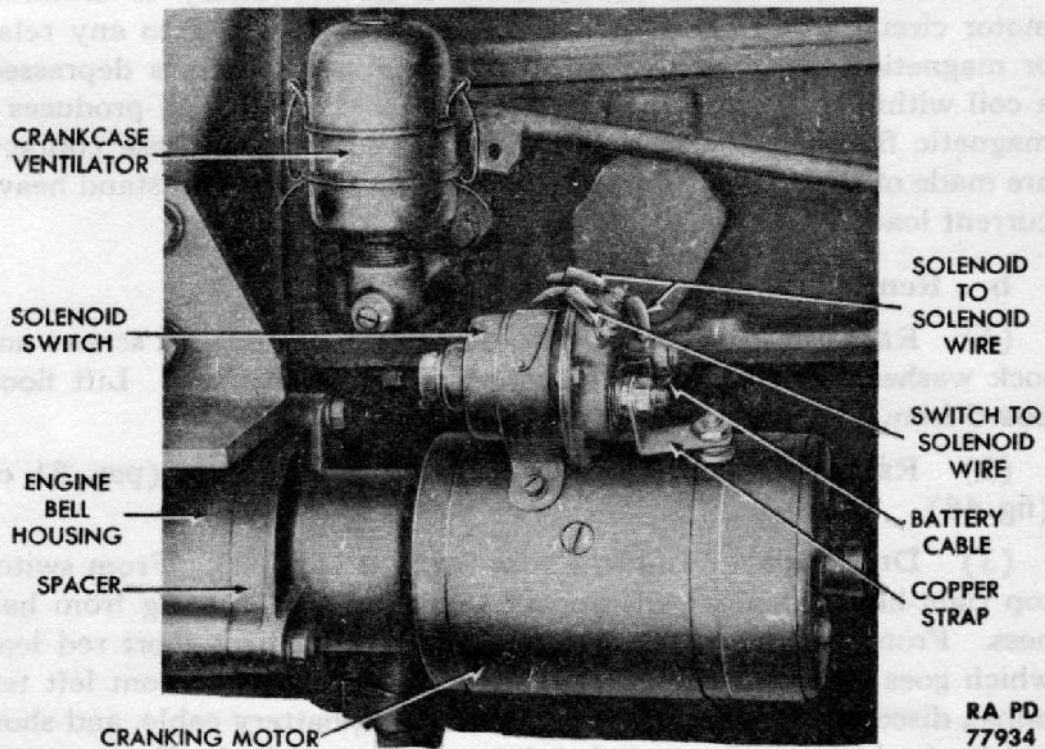

Figure 63 — Cranking Motor and Solenoid Switch
a. Description (fig. 63). A 12-volt cranking motor is installed on the right side of the engine, between engine and frame side rail. It can be reached through the right-hand splash shield opening and from under the truck. Engagement is with the gear on engine flywheel, and cranking is accomplished by means of a Bendix drive. This drive is attached to the end of the armature shaft and enclosed in a cast-iron housing. The drive housing is attached to the cranking motor by means of the main frame screws.
(3) **DISCONNECT MAGNETIC SWITCH FROM CRANKING MOTOR (par. 91 b (4)).**
(4) **DETACH CRANKING MOTOR FROM ENGINE (fig. 63).** Remove three cap screws and lock washers which attach cranking motor
(1) **ATTACH CRANKING MOTOR TO ENGINE** (fig. 63). From under truck, place spacer and cranking motor in position on engine bell housing. Install three lock washers and cap screws which secure motor to engine. One can be installed from under truck, and two through splash shield opening.
(2) Connect magnetic switch to cranking motor with two lock washers and screws.
a. Description (fig. 63). Located directly on top of cranking motor the magnetic switch may be reached by removing right-hand
(3) **DISCONNECT WIRING FROM SWITCH** (fig. 63). From switch top right-hand terminal, disconnect small red lead coming from harness. From switch top left-hand terminal, disconnect short red lead which goes to switch front left terminal. From switch front left terminal, disconnect large red lead from harness, battery cable, and short red lead which goes to switch left-hand top terminal. From switch front right terminal, disconnect flat copper strap which goes to cranking motor terminal.
(4) **DETACH SWITCH FROM CRANKING MOTOR** (fig. 63). Remove two screws and lock washers which secure switch to cranking motor. Lift switch from motor.
(1) **ATTACH SWITCH TO CRANKING MOTOR** (fig. 63). Place switch in position on cranking motor, and install two lock washers and screws.
(2) **CONNECT WIRING TO SWITCH** (fig. 63). On switch front right-hand terminal, install flat copper strap from cranking motor terminal, lock washer, and nut. On switch front left-hand terminal, install large red lead from harness, short red lead which goes to switch left-hand top terminal, battery cable, lock washer, and nut. On switch left-hand top terminal (adjacent to engine), install short red lead from front terminal. On switch right-hand top terminal (adjacent to frame side rail), install lead from harness, lock washer, and nut.